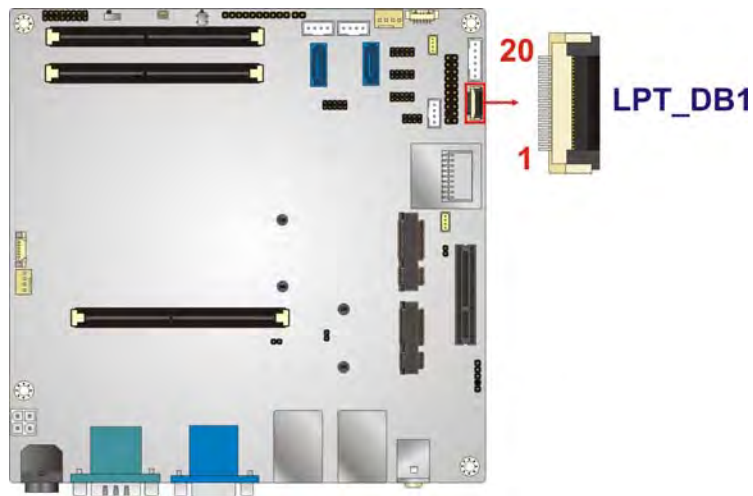

Figure 3-10: EC Debug Connector Location
- CN Location: See **Figure 3-10**